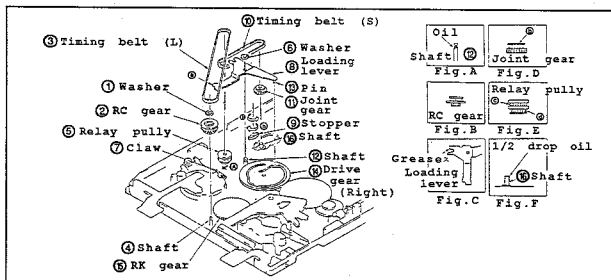

Fig.II-21
• Disassembling (Fig.II-21)
- (1) Set unloading state
- (2) In the same procedures in "3-3", dismount the capstan motor.
- (3) In the same procedures in "3-13", detach the pinch sub arm.
- (4) Remove the washer ①. Then dismount the RC gear ② (with the timing belt (L) ③ hooked) from the shaft ④.
- (5) Remove the washer ⑥. Then, detach the loading lever ⑧ while pushing the claw ⑦ toward the direction A.
- (6) Turn the stopper ⑨ toward the direction B by 90°.
- (7) Detach the joint gear ⑪ (with the timing belt(S) ⑩ hooked) from the shaft ⑫.
- (8) Separate the timing belt(S) ⑩ from the relay pulley ⑤.
*Note: When dismounting the gear ⑪, do not touch the flange ⑬ part. (Fig.D)
• Reassembling (Fig.II-21)
- (1) Apply 1/2 drop of oil to the shaft ⑫. (Fig.F)
- (2) Hook the timing belt(S) ⑩ to the joint gear ⑪, and then to the gear ⑬ of relay pulley ⑤ (Fig.E).
- (3) Attach the joint gear ⑪ to the shaft ⑫ with the timing belt(S) ⑩ attached.
- (4) Turn the stopper ⑨ toward the C direction until it comes to an end.
- (5) Apply 1/2 drop of oil to the shaft ⑫. (Fig.A)
- (6) Insert the loading lever ⑧ into the shaft ②. Then, match the ③ part with the claw ⑦ and insert the pin ⑩ into the groove of drive gear (right) ⑭.
- (7) Secure the washer ⑥.
- (8) Hook the timing belt(L) ③ to the gear as indicated in the Fig.B, and to the gear ⑬ of the relay pulley ⑤. (Fig.E)
- (9) Mount the RC gear ② to the shaft ④ (with the timing belt(L) ③ attached). Then, mesh it with the RK gear ⑤.
- (10) Secure the washer ①.